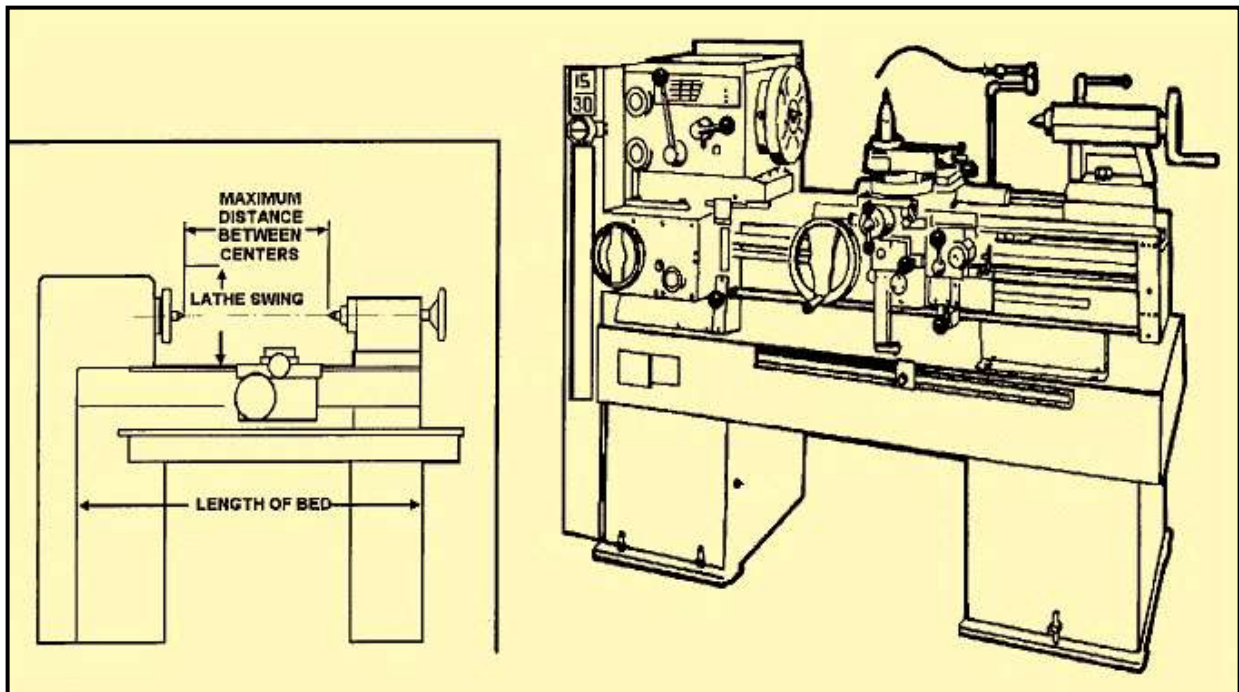

Figure 7-1. Lathe Categories.
The engine lathe (Figure 7-1) is ideally suited for this purpose. A trained operator can accomplish more machining jobs with the engine lathe than with any other machine tool. Turret lathes and special purpose lathes are usually used in production or job shops for mass production or specialized parts. While basic engine lathes are usually used for any type of lathe work. Further reference to lathes in this chapter will be about the various engine lathes.
**Sizes:** The size of an engine lathe is determined by the largest piece of stock that can be machined. Before machining a workpiece, the following measurements must be considered: the diameter of the work that will swing over the bed and the length between lathe centers (Figure 7-1).